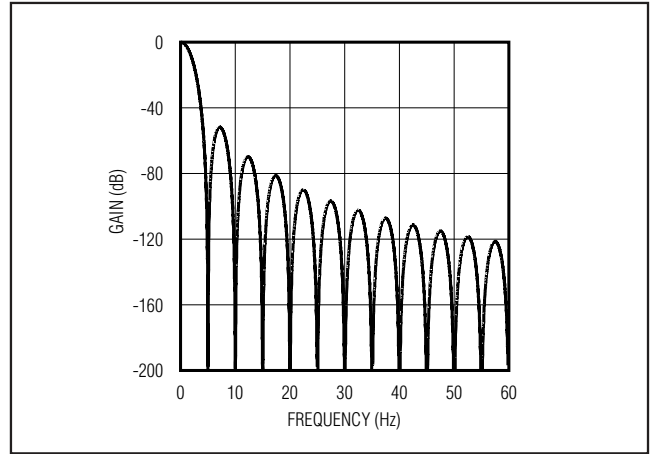

Figure 2. Frequency Response of the SINC⁴ Filter (Notch at 60Hz)
- Note 7:** Measured at DC by changing the power-supply voltage from 2.7V to 5.25V and measuring the effect on the conversion error with external reference. PSRR at 50Hz and 60Hz exceeds 120dB with filter notches at 50Hz and 60Hz (Figure 2).
Figure 2 shows the filter frequency response. The SINC⁴ characteristic $-3dB$ cutoff frequency is 0.228 times the first-notch frequency (5Hz).